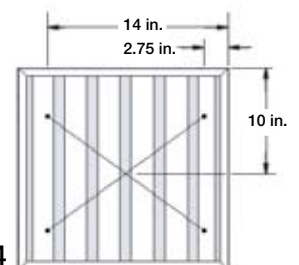

Fig. 34
- For 16 in. (400 mm) wide filters position the grid as shown in Fig. 34.